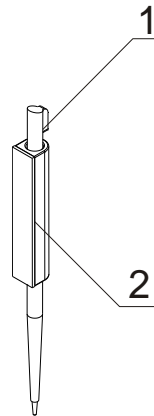

Fig.1
The stylus (pos.1, fig.1) is provided for comfortable and safe operation of the touch-screen of the IFS7002 fire control panel and IFS7002R.
The self-adhesive pad of the carrier ( pos.2, fig.1) allows for easy fixation at the proper place.